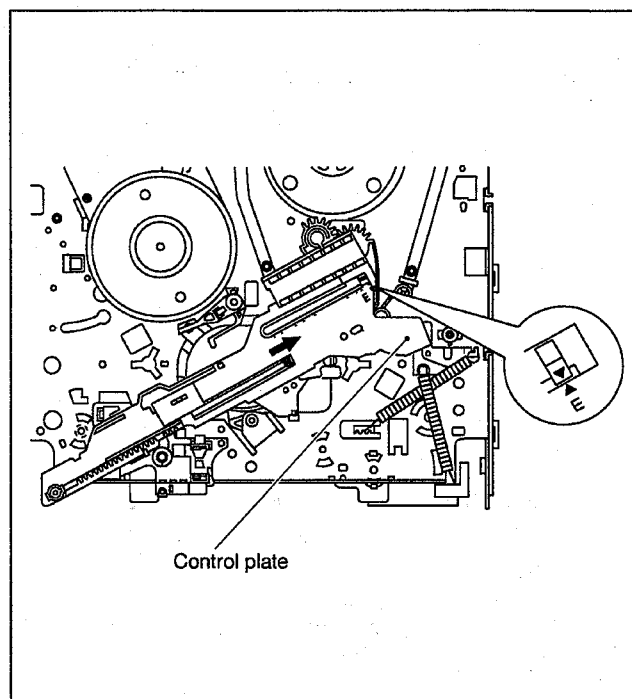

Fig. 2-3-2
- (1) With register marks on the both loading arm assemblies in alignment, install the control plate so that the mark ▼ on the loading arm gear shaft is in alignment with mark E of the control plate. (See Fig. 2-3-2)